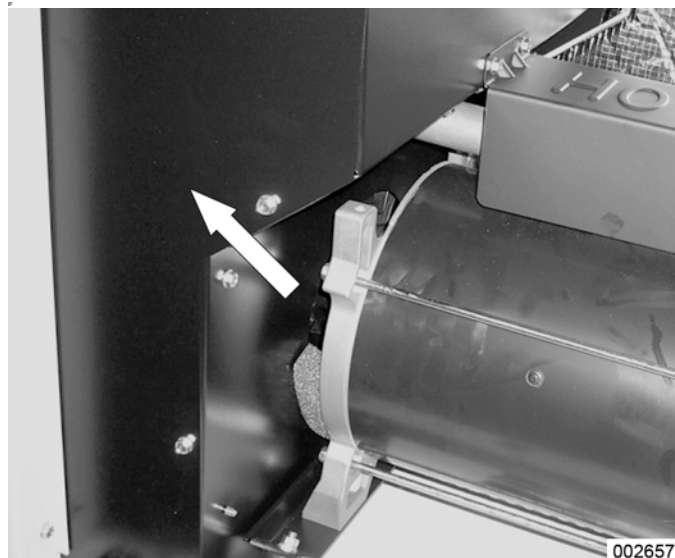

Figure 5-47.
2. **Remove Side Exhaust Enclosure Cover:** See Figure 5-47. Use a 10 mm socket to remove the five bolts from the exhaust side cover. Remove side covers.